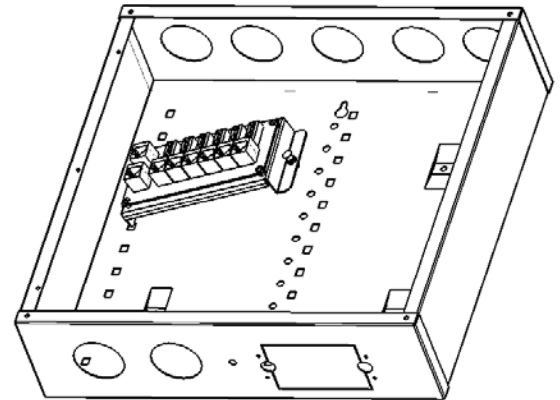

Figure 2
A. Mounting into an OnQ enclosure (see **Figure 2)**